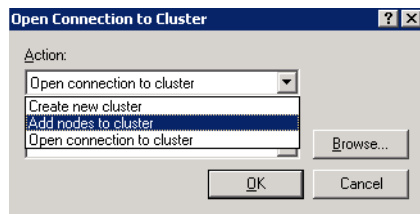

Figure 25-38 Add node to cluster
3. Select **Action** → **Add nodes to cluster**, as shown in Figure 25-38.